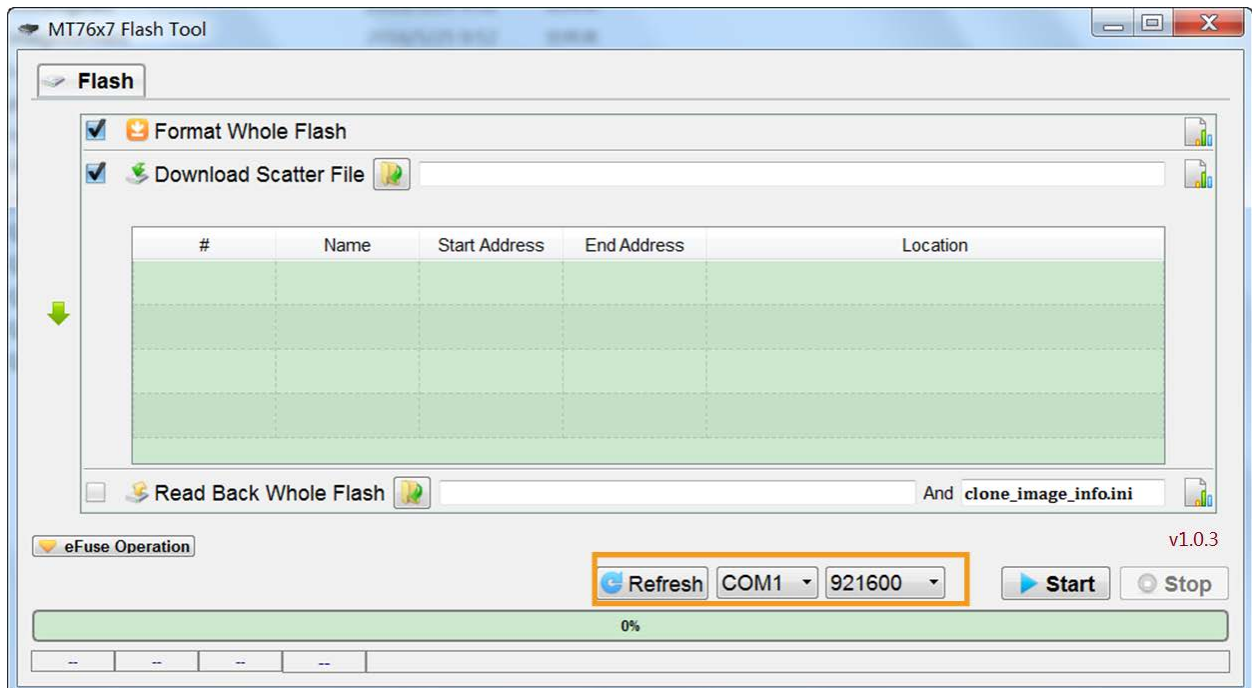

Figure 3. Setup the COM port and baud rate
- 3) Click **Refresh** and configure the correct COM port and the baud rate, as shown in Figure 3.